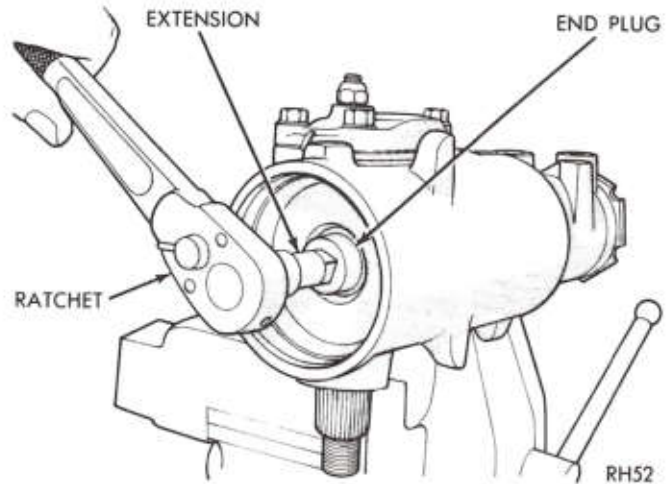

Fig. 7—Remove Rack Piston End Plug
(3) Remove the rack piston end plug (Fig. 7). To help loosen end plug, give it a sharp rap using a hammer and brass drift.